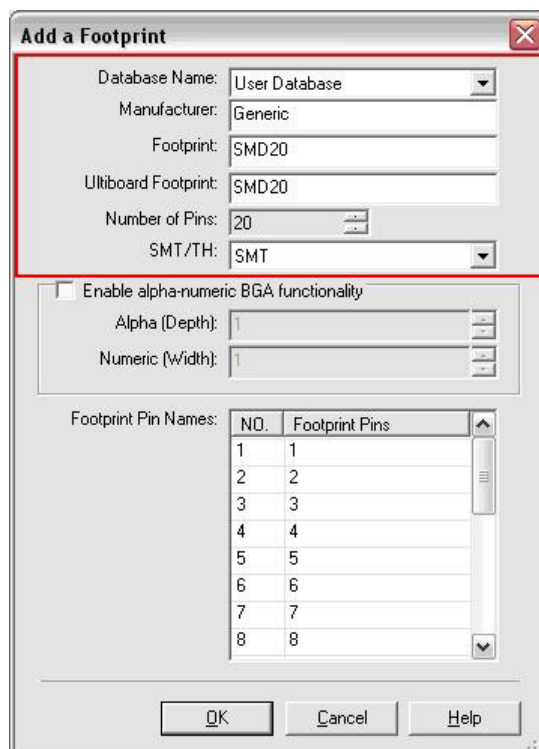

Figure 27 - Add a Footprint
i.) In the **Add a Footprint** dialog box set the following data as shown Table 5. The dialog box will appear as in Figure 27 (red box);